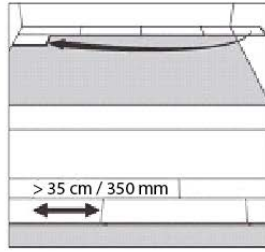

Figure 2
2. Position the long side of the first board in place overlapping the groove of the panels/planks in the previous row by approximately 3mm. Then angle the end joint into the previous panel/plank. Angle the panel/plank up and gently push forward until the panel/plank locks into the previous row **(Figure 2)** Slide the board to the **left/right** as necessary to align the edges of the end joint.